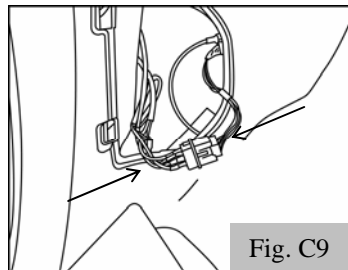

Fig. C9
6. Reinstall the (2) mounting nuts.
8. Reconnect the taillight connector. (Fig. C9)